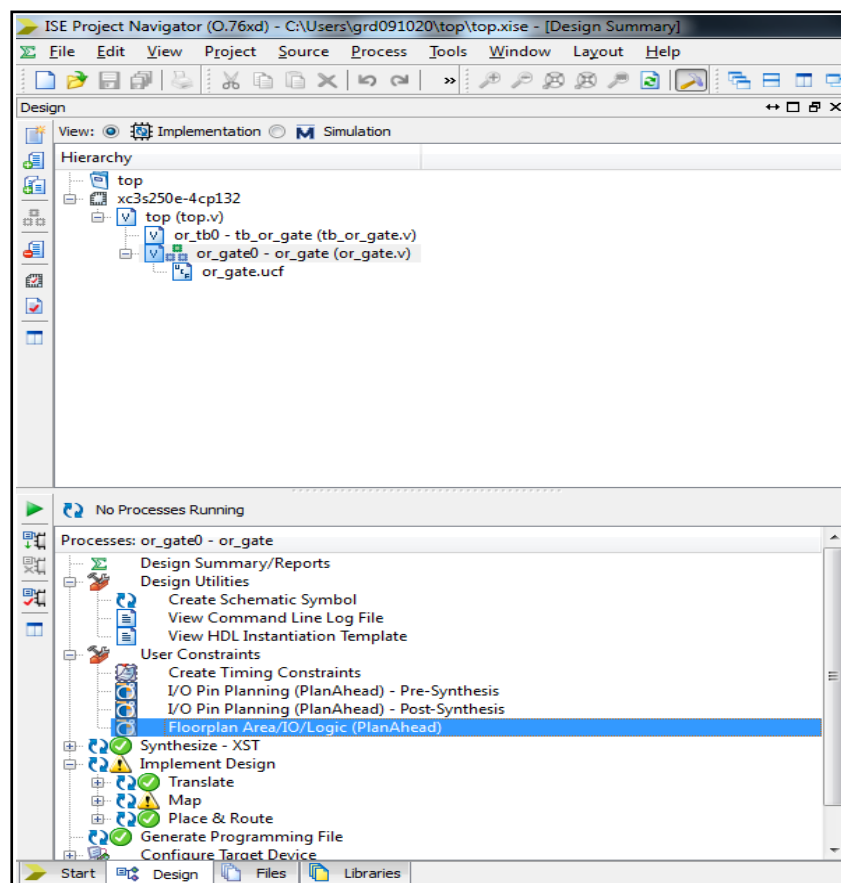

Figure 19: Launching XilinxPlanAhead from Xilinx ISE
- The board is powered ON. Check the switch settings as shown in Figure 19.